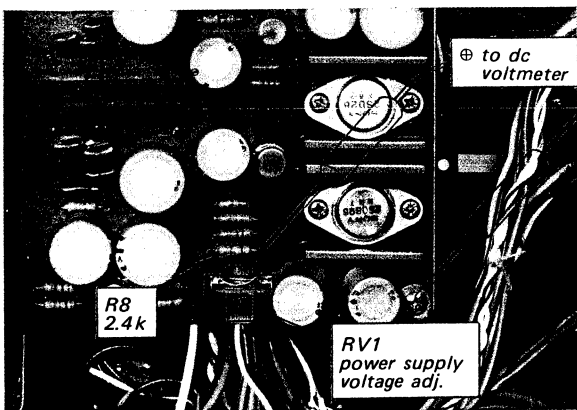

Fig. 3-15 Parts location
1. Turn the POWER switch to ON, and then measure the voltage between R8 (2.4k) and chassis as shown in Fig. 3-15.
2. Adjust the semifixed resistor RV1 (see Fig. 3-15) to obtain a 24V reading on the meter.